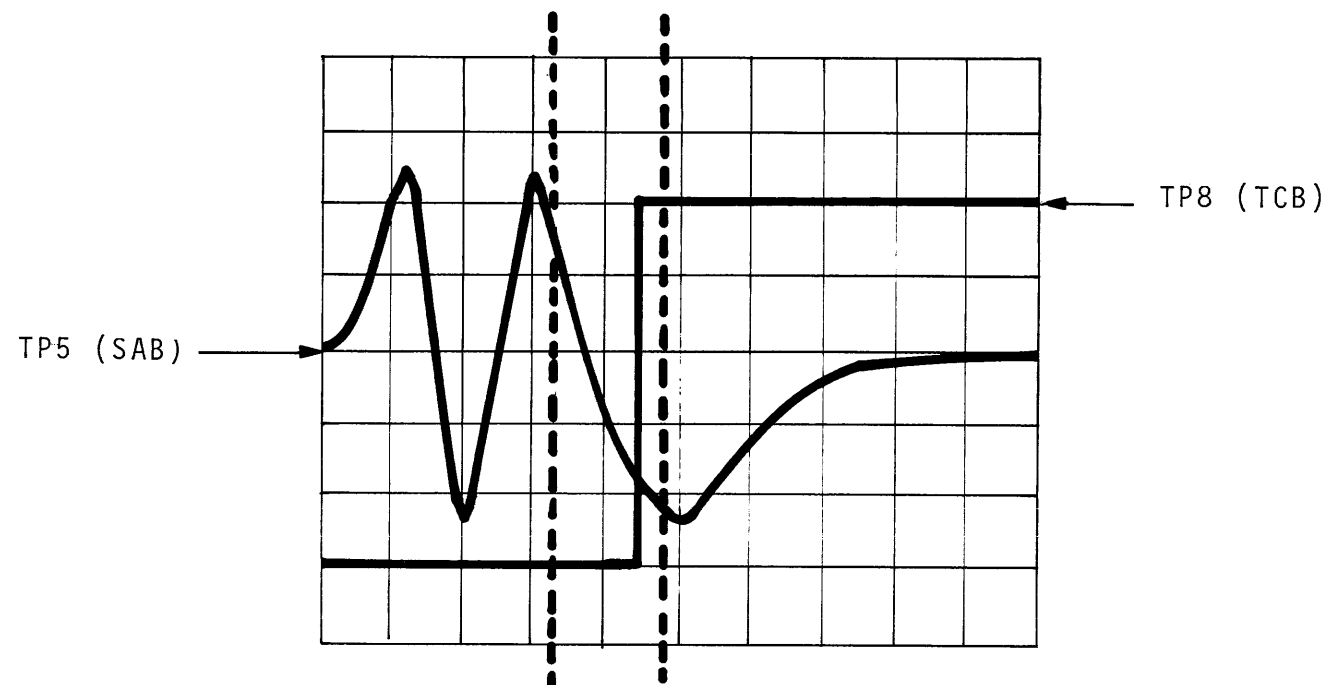

Figure 7-35. Zero Adjustment ("D" model using computer).
2. Set up scope as per Figure 7-35.
3. Adjust R2 (TCB) so that the positive transistion of TP8 is within the dotted lines as shown in Figure 7-35.
In Figure 7-35, the computer is telling the drive to seek between track 0 and 2. Actually the drive is seeking between 0 and 4.